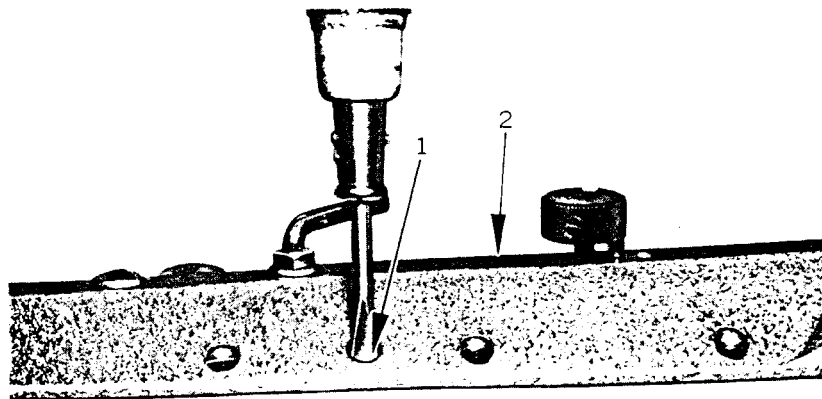

Fig. 10
ADJUSTMENT OF THE PRESSURE ON GOODS (Fig. 10)
1. Remove the top cover (2, Fig. 10)
1. Loosen the screw (1, Fig. 10) sufficiently.